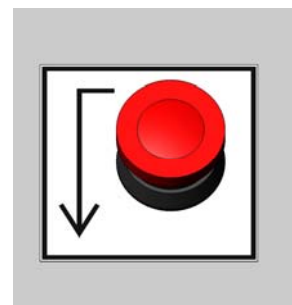

Fig. 6.12
- Press Release Button (Fig. 6.12).